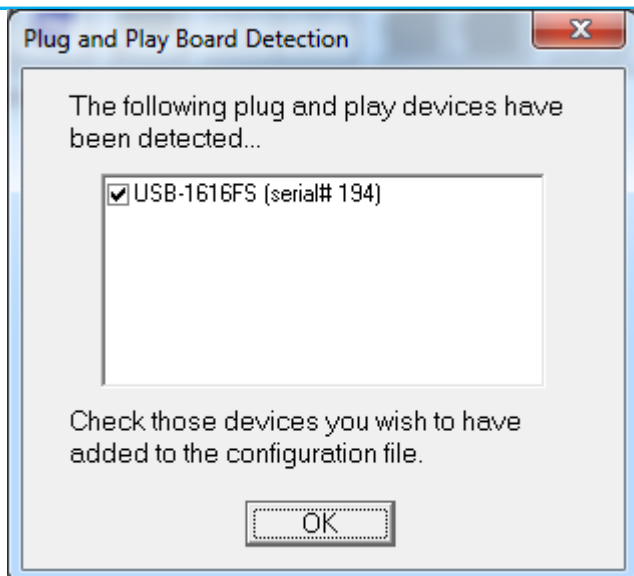

Figure 2. Detected devices.
- If DAQ system is properly connected, you should see it under detected devices (*Figure 2*).